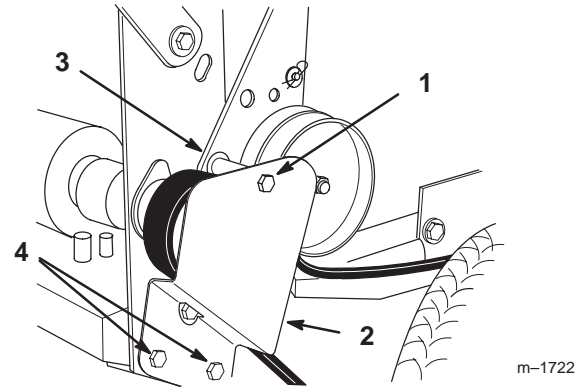

Figure 54
2. Remove top capscrew securing idler support and idler bracket to rear frame (Fig. 54).
3. Loosen bottom two mounting screws enough to allow belt to pass between drive pulley and idler support (Fig. 54).